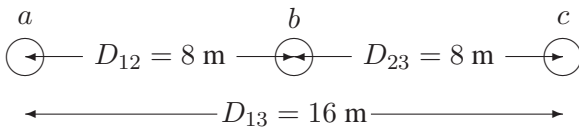

FIGURE 37
4.8. A three-phase transposed line is composed of one ACSR 159,000 cmil, 54/19 Lapwing conductor per phase with flat horizontal spacing of 8 meters as shown in Figure 37. The *GMR* of each conductor is 1.515 cm.